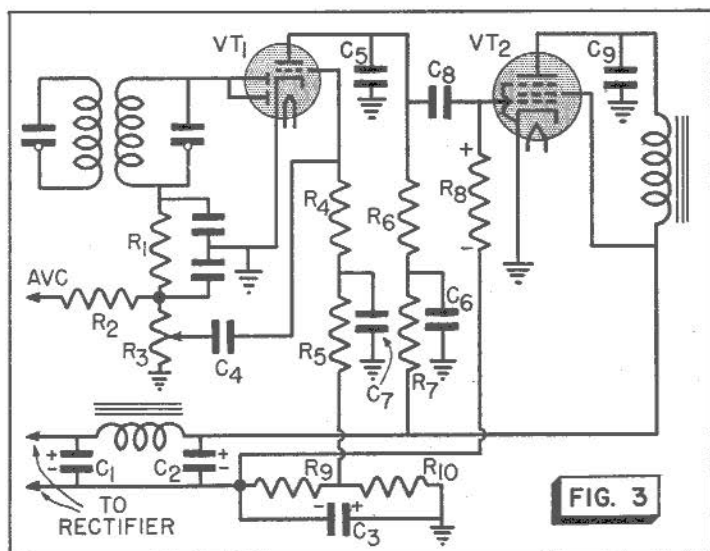

FIG. 3
► Circuits that use a fixed bias that is obtained from a power supply, as in Fig. 3, all have a common weakness. The plate currents of all the tubes flow through resistors  $R_{10}$  and  $R_9$ .  $VT_1$  is biased by the drop across resistor  $R_{10}$ , and the voltage across both  $R_9$  and  $R_{10}$  acts as the grid bias for  $VT_2$ . This circuit works very well as long as the current flow through these resistors is unchanged. However, any change may produce distortion.
► To see why touching your hand to the top cap of  $VT_1$  and to the chassis reduces the bias on the tube, examine the circuit shown in Fig. 4. This shows the essential bias supply circuit of  $VT_1$  in Fig. 3, which consists of the supply resistor  $R_{10}$  and the series resistors  $R_4$  and  $R_5$ . Ordinarily, when no d.c. current flows in this grid circuit, resistors  $R_4$  and  $R_5$  have no effect on the grid bias voltage; all the bias voltage developed across  $R_{10}$  is applied to the grid of  $VT_1$ .